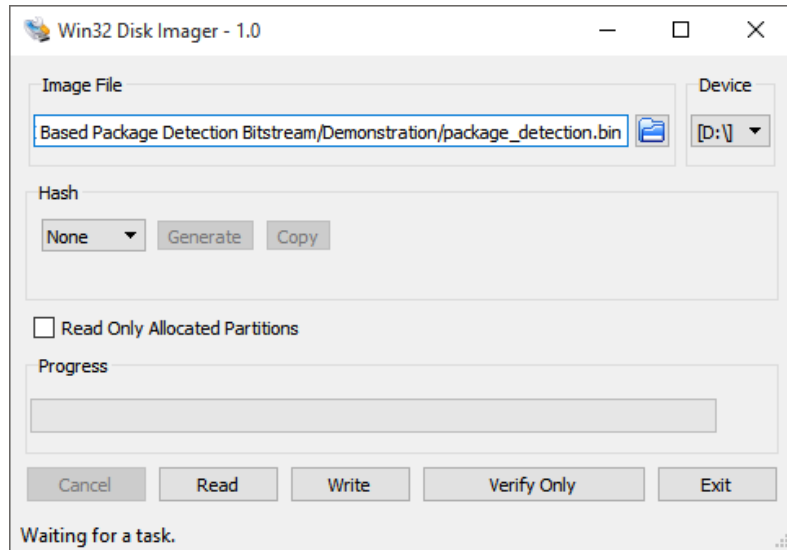

Figure 4.2. Win32 Disk Imager
4. In Win32 Disk Imager, select the image file `~/Demonstration/package_detection_demo.bin` as shown in Figure 4.2.